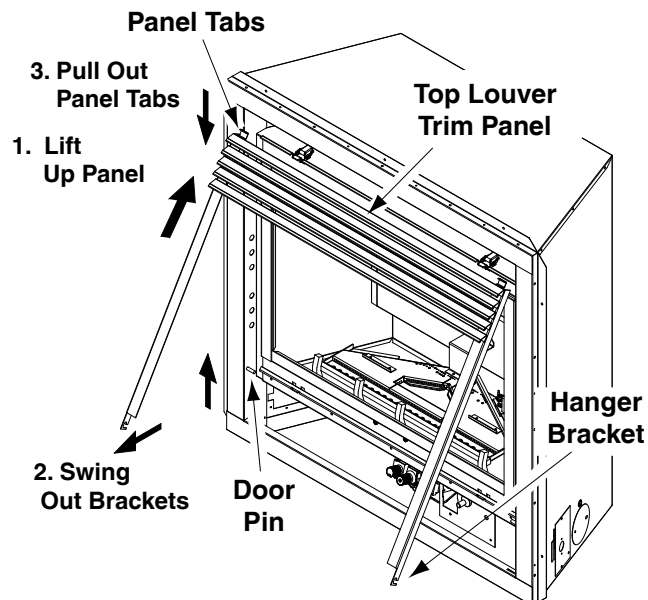

Figure 54 - Removing Top Louver Trim Panel
1. Grasp the two hanger brackets at the bottom and pull up until the hanger brackets release from the door pins. (see **Figure 54**).
2. Remove the top louver trim panel (see *Removing Top Louver Trim Panel*, **Figure 54**).
3. Position the top left log and top right log onto the rear log and base log as shown in (see **Figure 54**).